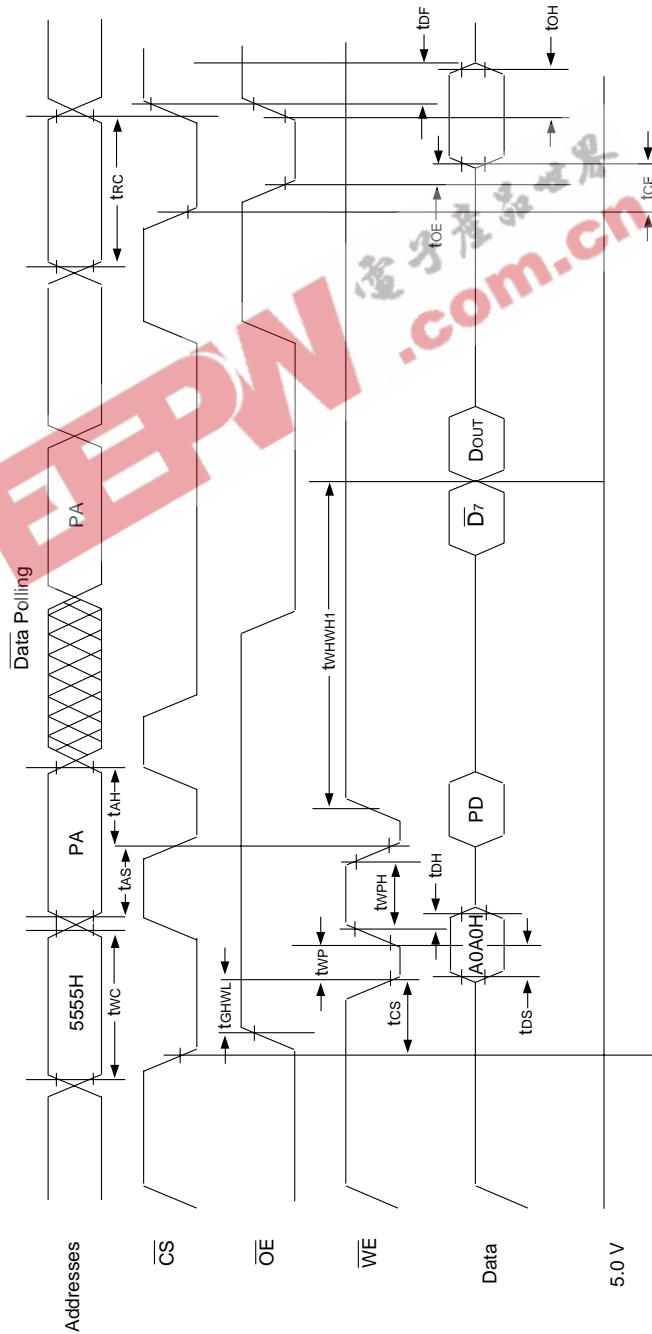

**FIG. 3**
The device has two control functions, both of which must be logically active, to obtain data at the outputs. Chip-Select (CS) is the power control and should be used for device selection. Output-Enable (OE) is the output control and should be used to gate data to the output pins. Figure 3 illustrates read timing waveforms.